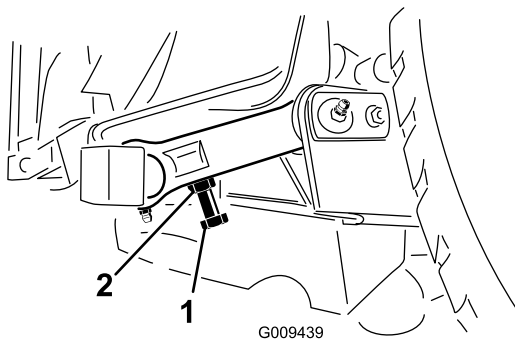

Figure 32
3. To adjust distance, locate adjuster bolt on rear pivot link of the cutting unit (Figure 32).